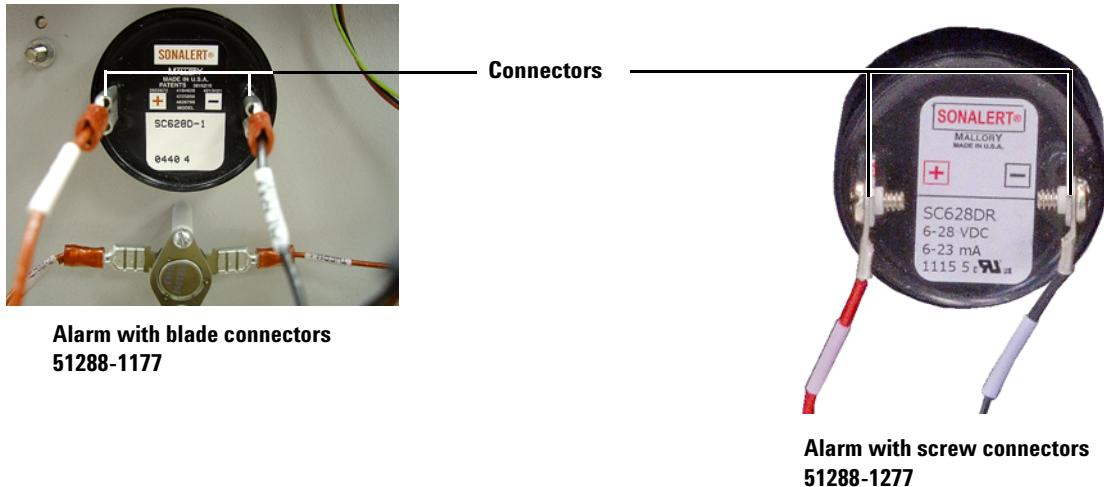

Figure 10 Inside view of the back of alarm.
- 2 Remove the wires (marked **ALRM +** and **ALRM -**) from the alarm. (See Figure 10.)